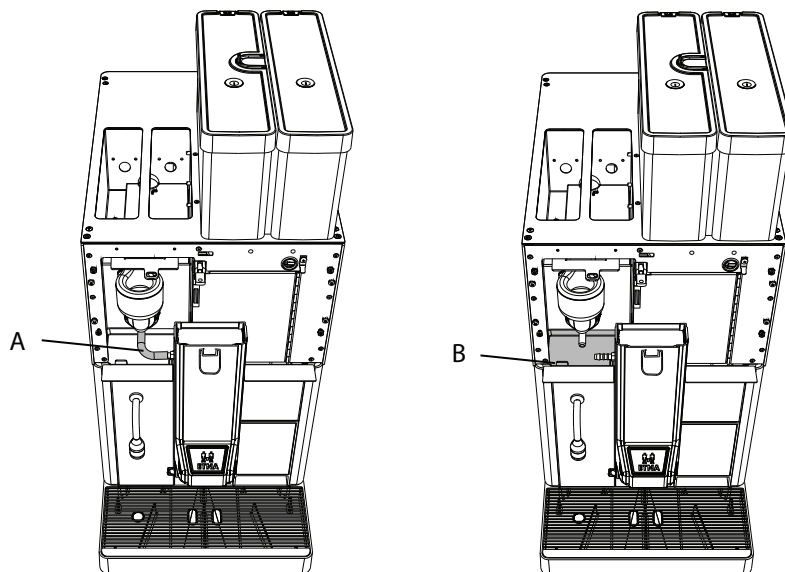

Figure 4-8
16. Remove the moulded hose, (see figure 4-8) (A).
17. Pull the tab of the drip tray up, (see figure 4-8) (B).